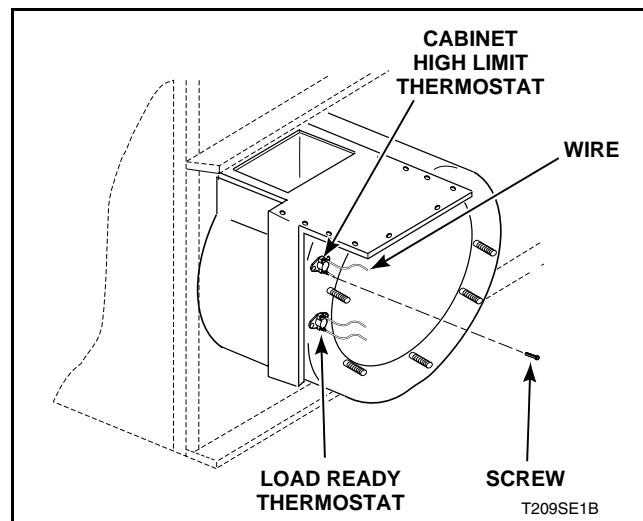

Figure 10
- b. Disconnect wires from thermostat. Refer to *Figure 10*.